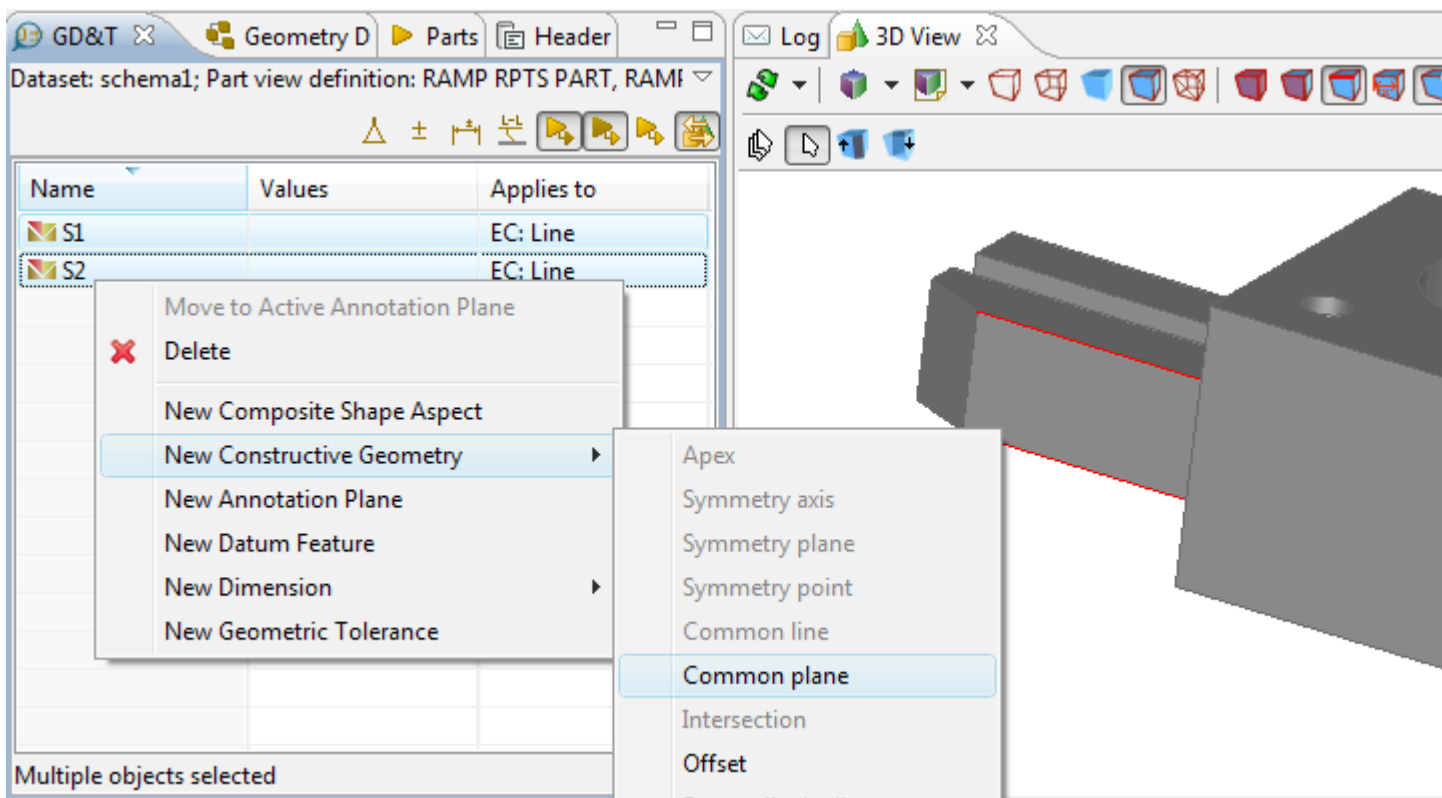

Figure 1. Selected items: two lines, menu item to create common plane in GD&T view and two lines in 3D View
- Right click and select **Create Constructive Geometry -> Common Plane** item in the appeared context sensitive menu (see Figure 1).